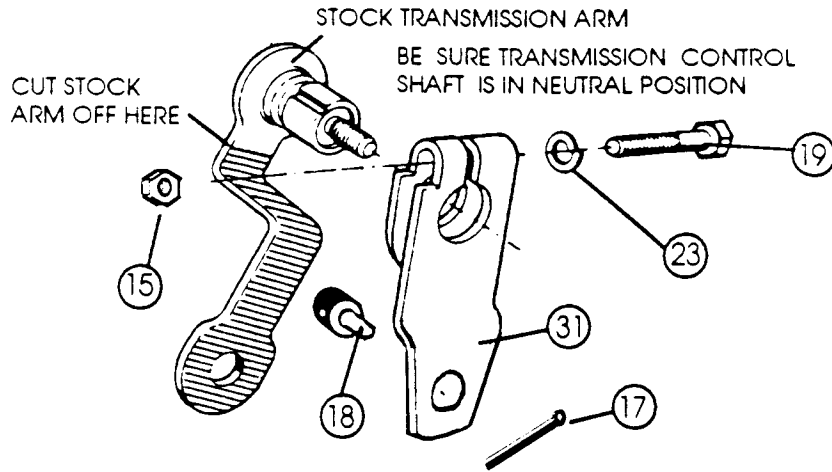

FIG. 6B
4. C-4: Two (2) lower bolts (E) on the rear servo cover (F), must be removed. Install Hurst cable bracket Pt. #117 8558 (Item #29) on to servo cover, re-using factory bolts and tighten securely. (Refer to Figure 6B).